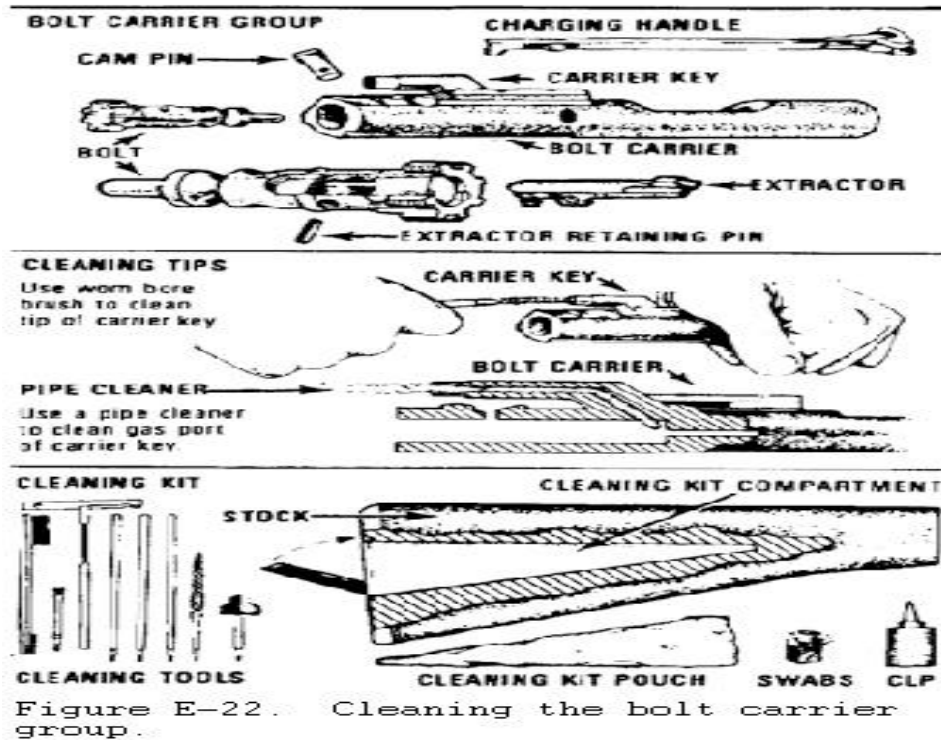

Figure E-22. Cleaning the bolt carrier group.
equipment case (figure E-22).
c. Clean the following rifle parts lightly lubricating with CLP (figure E-22).
- (1) Lugs in the barrel extension, bore, and chamber.
- (2) Bolt carrier.
- (3) Slide cam pin area.
- (4) Piston rings.
- (5) Outside the bolt body.
- (6) Inside the bolt carrier key.
- (7) Firing pin and firing pin recess.
- (8) Outside surface of the protruding gas tube with a worn bore brush.
- (9) Buffer.
- (10) Action spring.